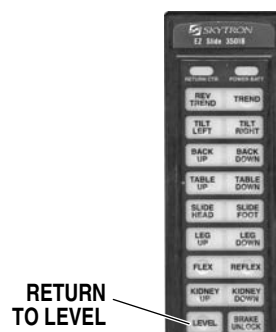

**Figure 2-13. Kidney Lift Positioning**
**i. Kidney Lift.** To raise the built-in kidney lift, press the KIDNEY UP button (figure 2-13). Up to 5-1/2" of lift can be achieved. Press the KIDNEY DOWN button to lower the kidney lift.